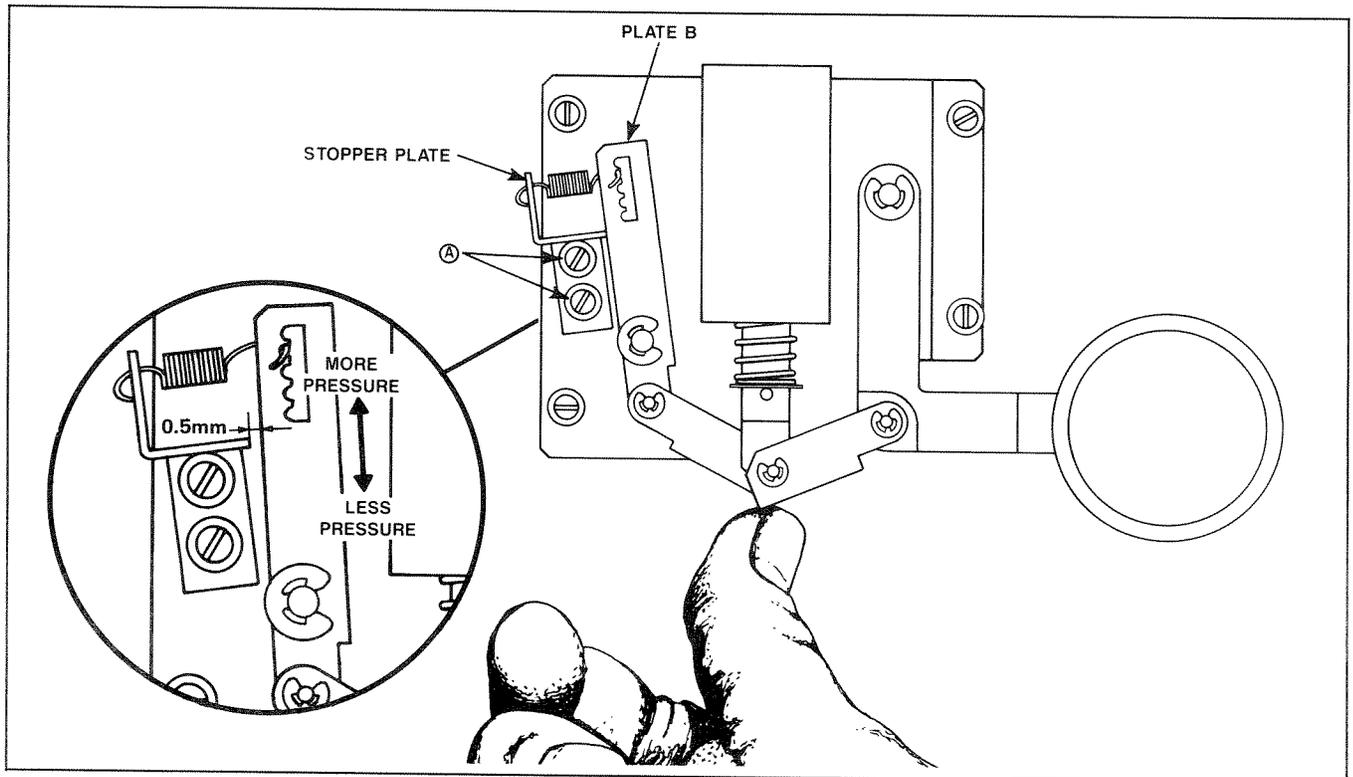

Figure 6-21. Spring Adjustments
- STEP 8** Set the tension spring so that the pinch roller guide pressure is $2.5\text{kg} \pm 0.3 \text{ kg}$ (refer to Figure 6-21, Spring Adjustments).